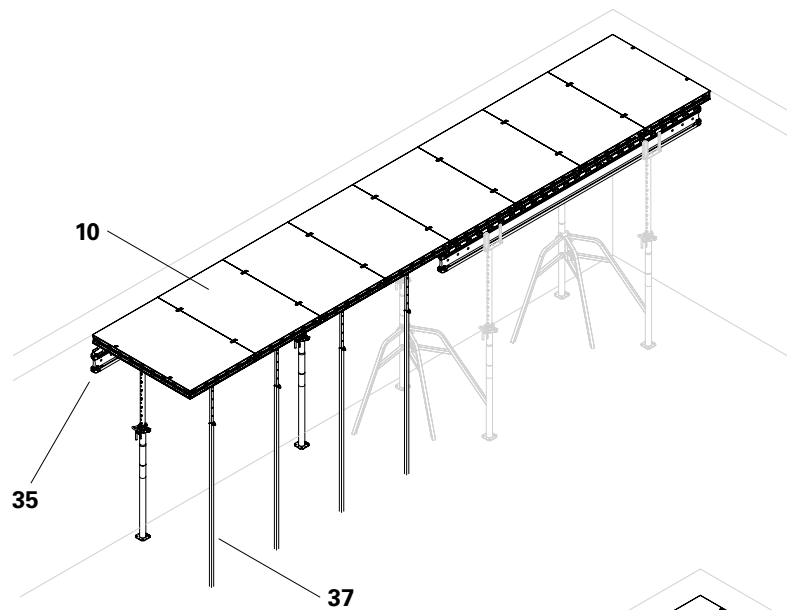

Fig. D6.19
10. Repeat points 3 and 4 for the neighbouring DUO DP panels (10) until the girder is filled with DP panels (10). DP panels (10) that no longer fit onto the current girder are placed on the next girder. (Fig. D6.19)